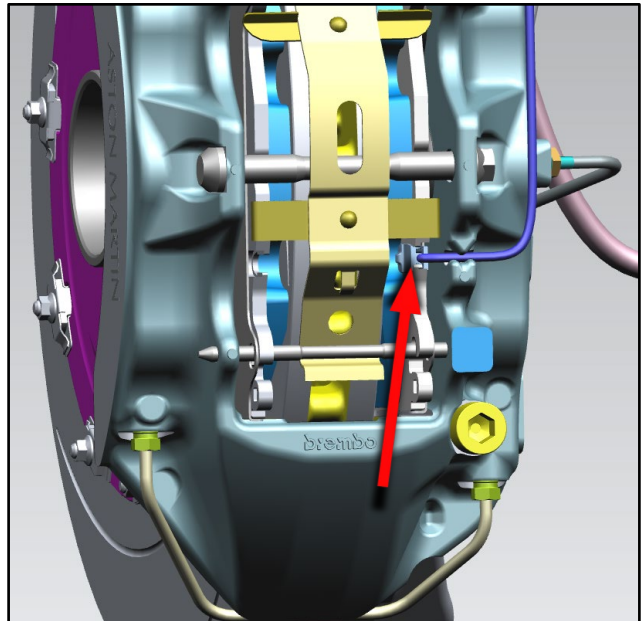

Figure 9
12. Make sure the pad wear sensor is attached to the brake pad (refer to Figure 9).